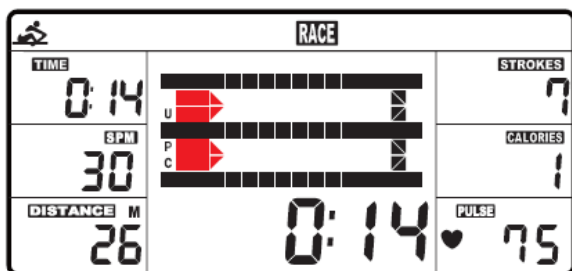
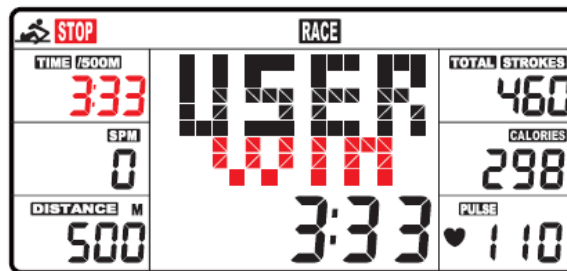

Fig. 6
Fig. 7
A. Press START button to start and STOP will disappear. USER and PC will display in the matrix (Fig.6). The console will stop when either user or console has reached the race distance that was set. Then the matrix displays "PC WIN" or "USER WIN" (Fig.7).